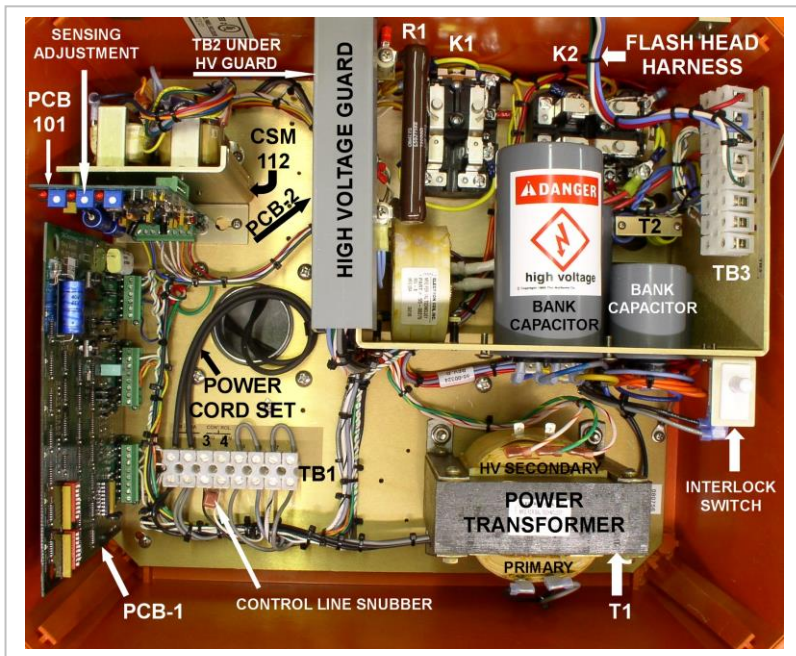
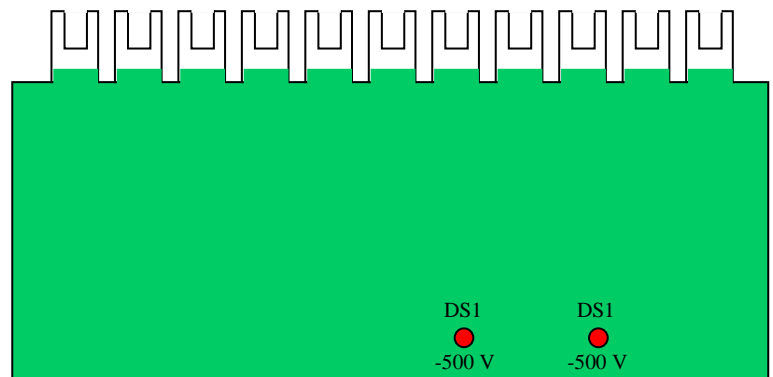

Figure 9
Figure 12
- Check screw tightness on TB1 and TB3 (8-position terminal blocks; See Figure 9 for locations). Check every position that has a wire connection whether to external wiring or to internal circuits.
It is important to know where the major components are located, especially when attempting to follow troubleshooting procedures. Use Figures 9 and 10 for this information. A slave power supply does not have a CSM 112 Current Sensing Module; it is otherwise identical to a master power unit.
Each power supply has two circuit boards with indicator lights that can be used to interpret operating conditions. PCB-1 is the Timing and Control circuit board. Its location is shown in Figures 9 & 15. It has seven red LEDs, but only five of these apply to standard functions. DS1 and DS2, labeled Monitor and Confirm, are used only when the Monitoring option has been elected at the time of purchase. SW1 and SW2 are programming switches. SW1 and SW2 are programming switches.
PCB-2 (High Voltage Rectifier Board) does not show in Figure 12, but its location beneath the High Voltage Guard is noted. Two LEDs, DS1 & DS2, on PCB-2 (Figures 9 & 15) are in prominent view for safety and troubleshooting. These LEDs are high voltage indicators, and both must be lit for normal operation. They will extinguish soon after power is removed. Many older PCB-2 circuit boards have neon lamps for DS1 & DS2.